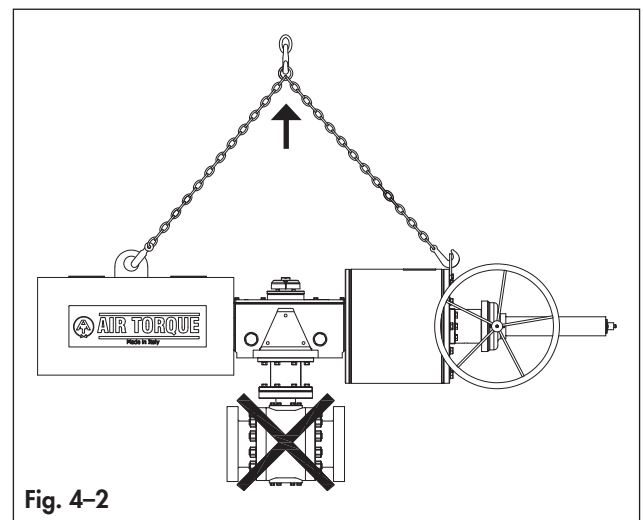

Fig. 4-2
- Do not use the actuator with bevel gear lifting points to lift the entire actuator and valve assembly. (Fig. 4-2)